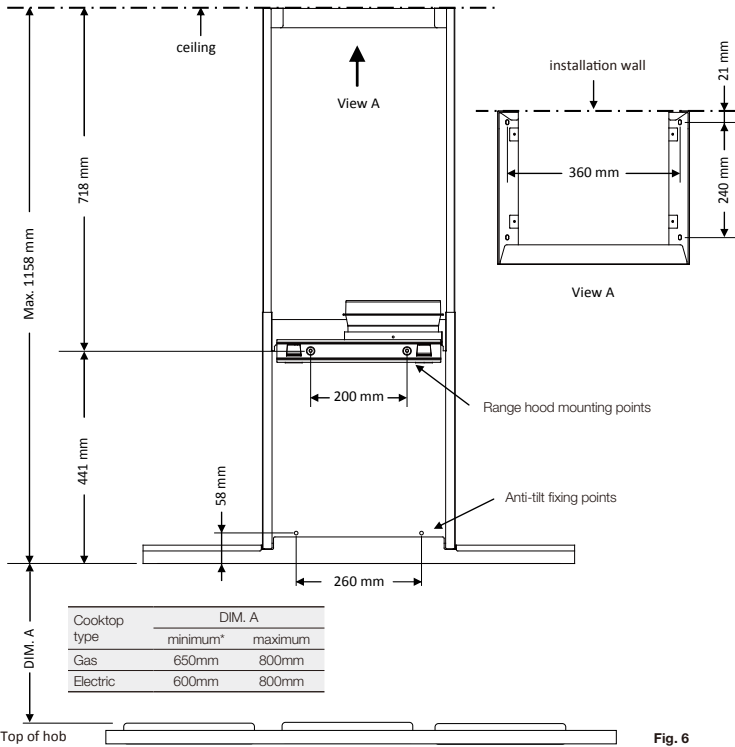

Fig. 6
2. Mark the location for flue cover wall mounting brackets and cooker hood mounting points and anti-tilt fixing points above the hood base using the hood base as the reference point (Fig. 6).
3. Install flue cover wall mounting brackets with suitable fixings. Install suitable screws for cooker hood mounting points (to support a total weight of 30kg) to the wall as marked (Fig. 6).